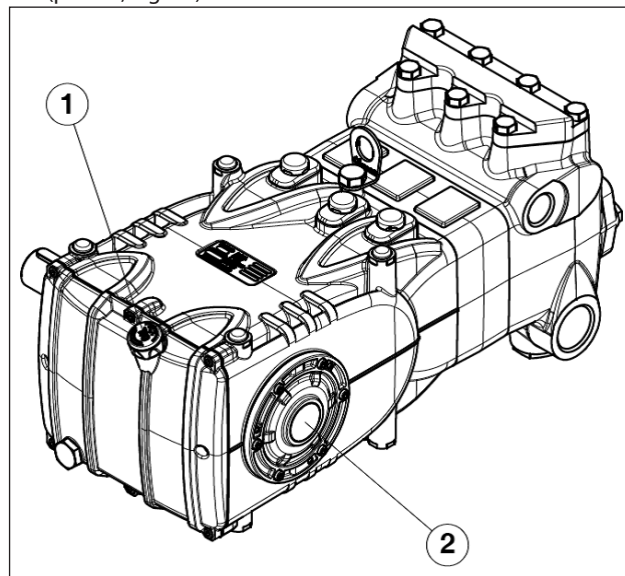

Fig. 13
- Oil in the pump casing is at level, verified with a dipstick (pos. ①, Fig. 13) and exceptionally with a level indicator (pos. ②, Fig. 13).